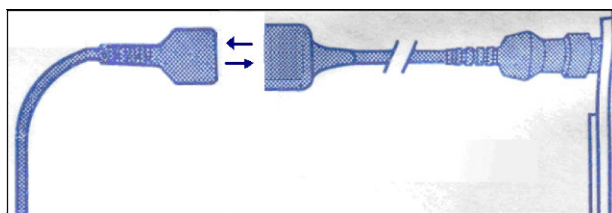

Figure 7-4: Test the Pressure Cable
- 1) Disconnect the catheter from the cable. Insert the cable check plug into the catheter end of the cable. (See Figure 7-4).